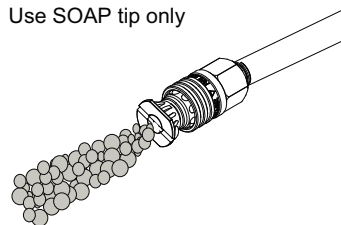

Fig. 7-3
- Connect low pressure black soap nozzle to the wand connector. (See Figure 7-3.)